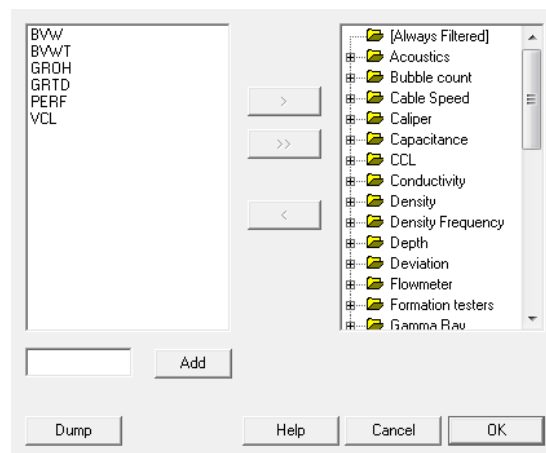

Fig. B02.1 • Mnemo definition dialog
- Click on 'Yes', the 'Mnemo Definition' dialog is displayed, Fig. B02.1.